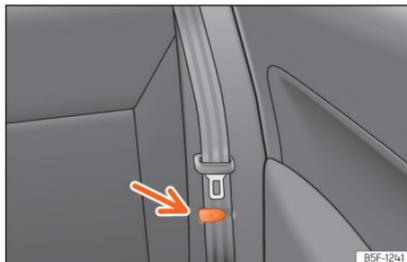

Fig. 117 Rear seat: clip to hold the seatbelt in place.
- Place the side seat belts in the trim clip »» Fig. 117.